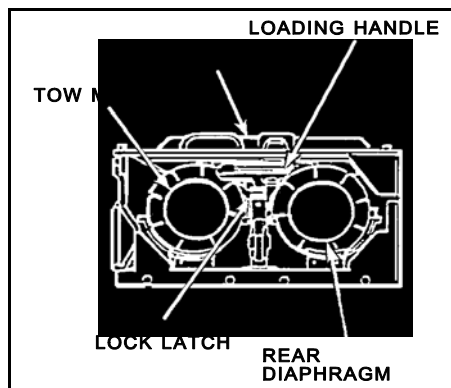

Figure 1. Rear of loaded TOW launcher.
2. Inspect the rear end of the missiles by checking the rear diaphragm for tears or other damage before unloading (Figure 1).